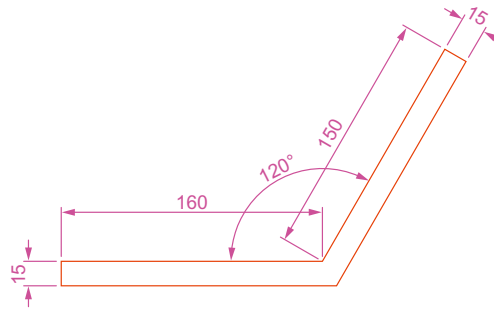

Fig. 17.5 First example – Changing UCS planes – pline for extrusion
1. Set **UCSFOLLOW** to 1 (ON).
3. Construct the pline outline (Fig. 17.5) and extrude to 120 high.